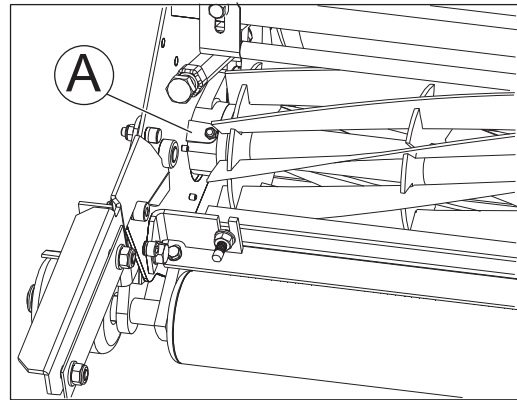

Fig 11.4a
- Cutting cylinder bearings [A] (Fig. 11.4a).